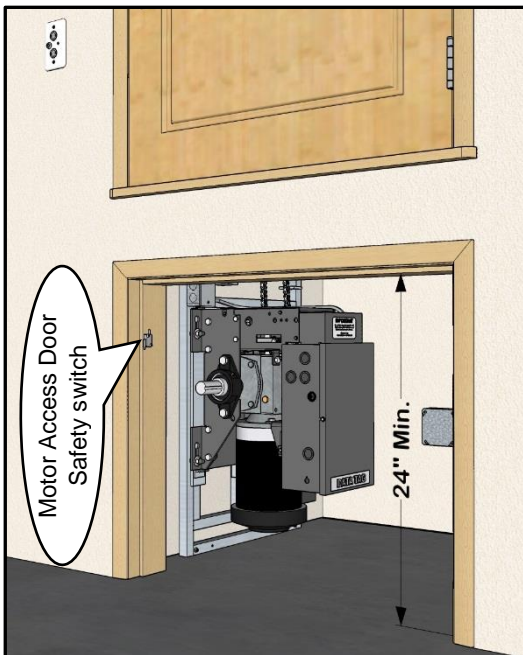

Figure 29
- 5** Mount the safety switch to the jam of the access panel opening, so that you can hear the switch click when opening and closing the access door. **(see Figure 29)**